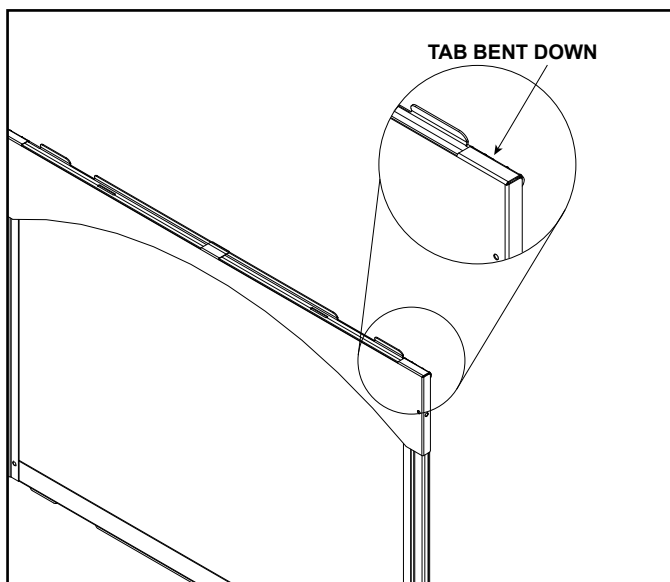

Figure 10. Hand-Bend Tab Bent Down
10. Bend the hand bend tabs “down” as shown in Figure 10. Attach to glass assembly. Reinstall glass assembly.